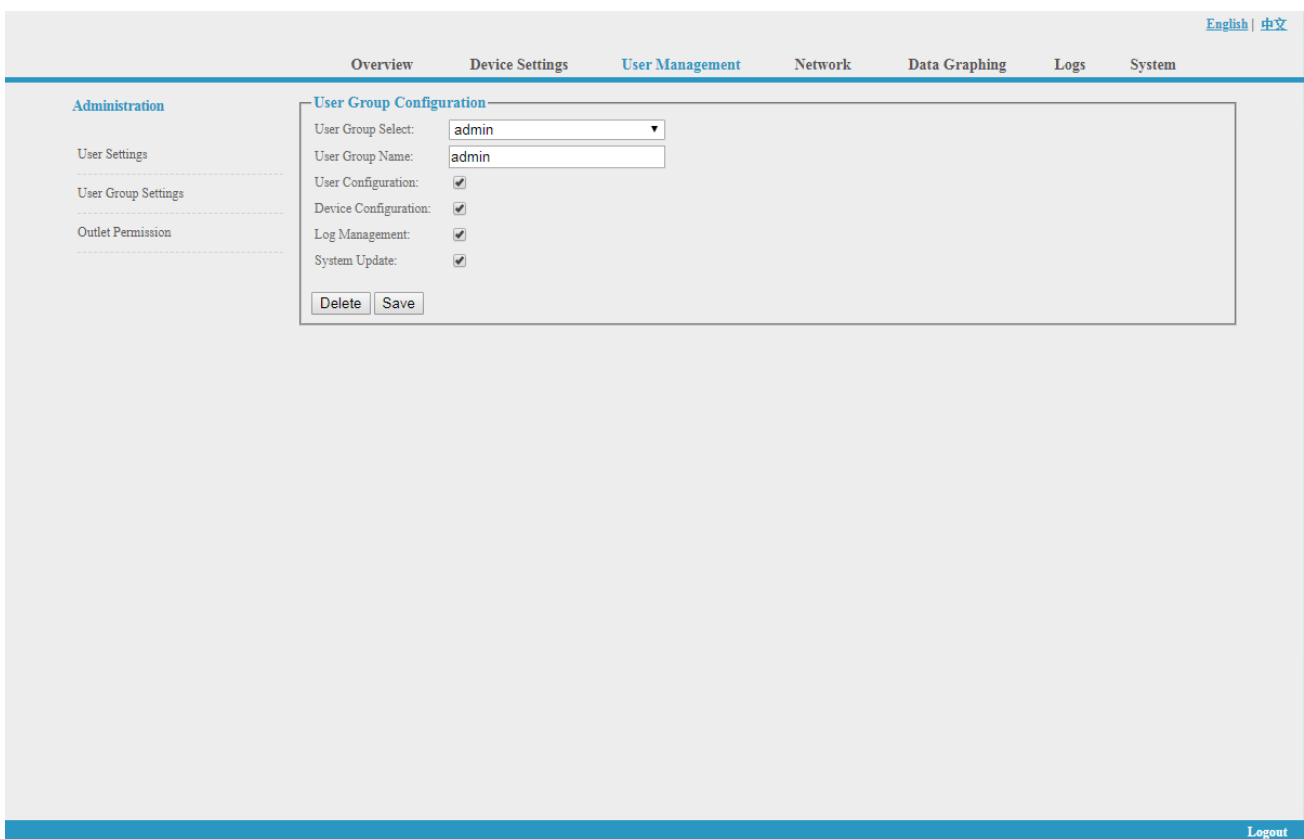

Figure 1-4-1
4. Create new user group: Click User Group Settings, fill in the new user group name and configure the corresponding rights, then click Save to finish, see as figure 1-4-1